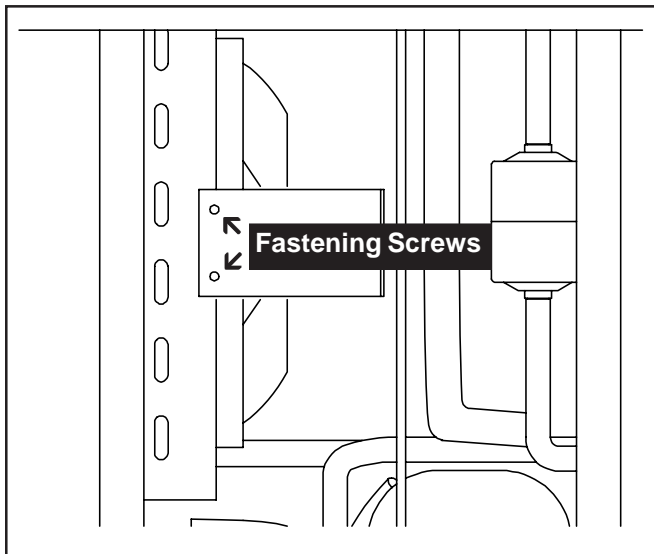

Figure 41. Fan Removal
3. Using a 5/16" nut driver or a phillips screwdriver, remove the four fastening screws from the fan mounting brackets (Fig.41).